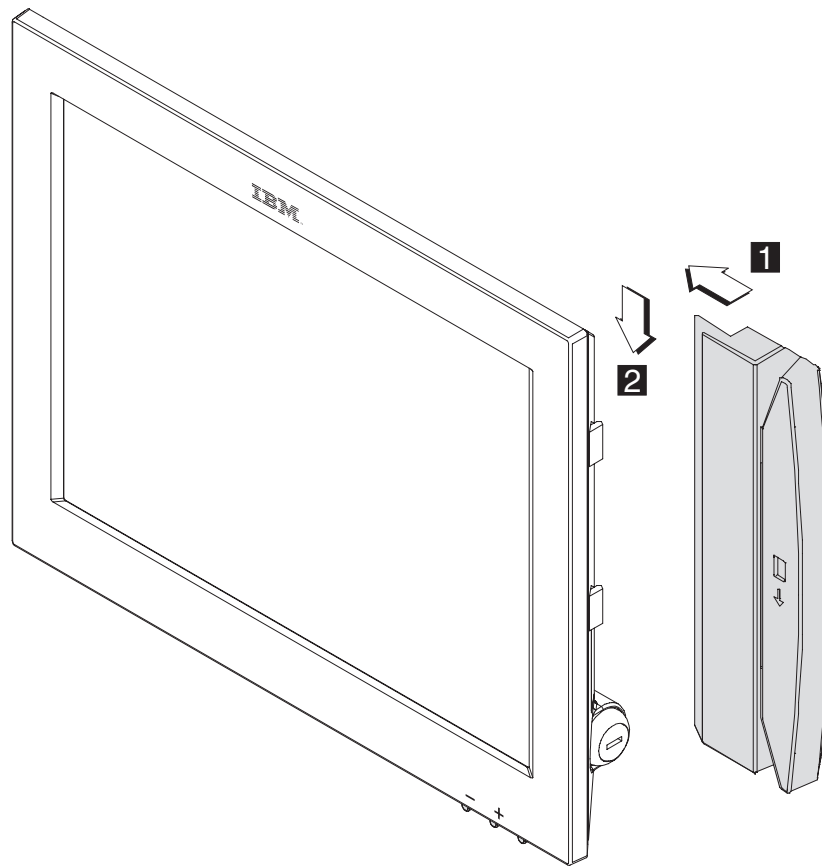

Figure 46. 4820 SurePoint Solution with MSR
- **Models 2xx and 5xx:** Align the MSR ( **1** in Figure 46) so that the connectors are slightly above their matching slots on the 4820. Slide the MSR downward ( **2** ) until it snaps into place.